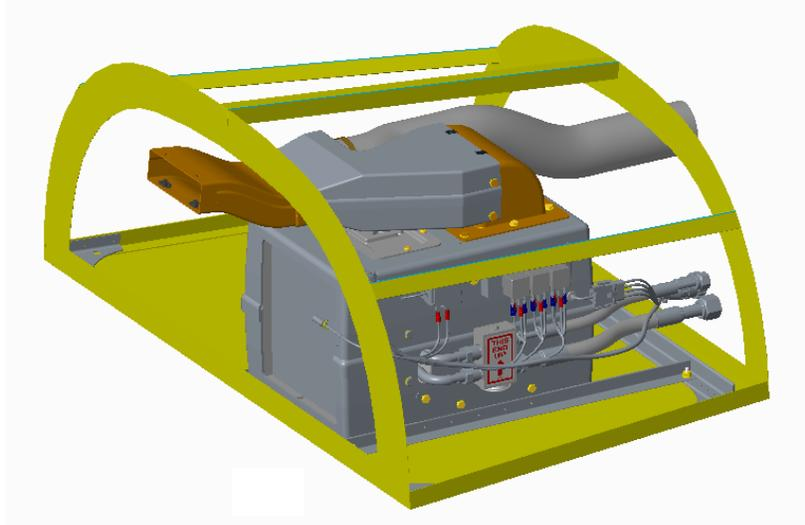

Figure 30 – Evaporator Assembly and Hose Installation
- 8) Record the aircraft serial number on AC-02207 PMA Label in indelible ink, then affix the label to the starboard side of the Evaporator Assembly. Install the Evaporator Assembly and Hoses per Notes 5, 6 and 7 and Assembly View 4, Partial Top View 5 and Assembly View 6. See Figure 30.